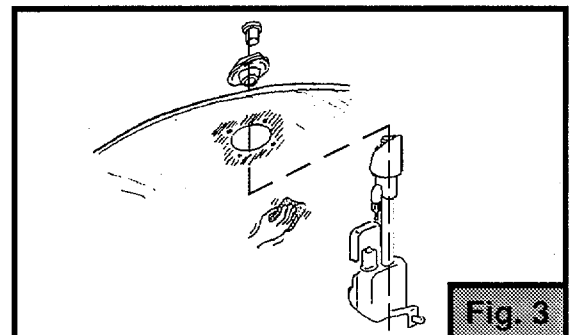

Fig. 3
3. Remove the antenna assembly and inspect the inner fender around the antenna hole for corrosion (Fig. 3). Clean with 1500 grit sandpaper.